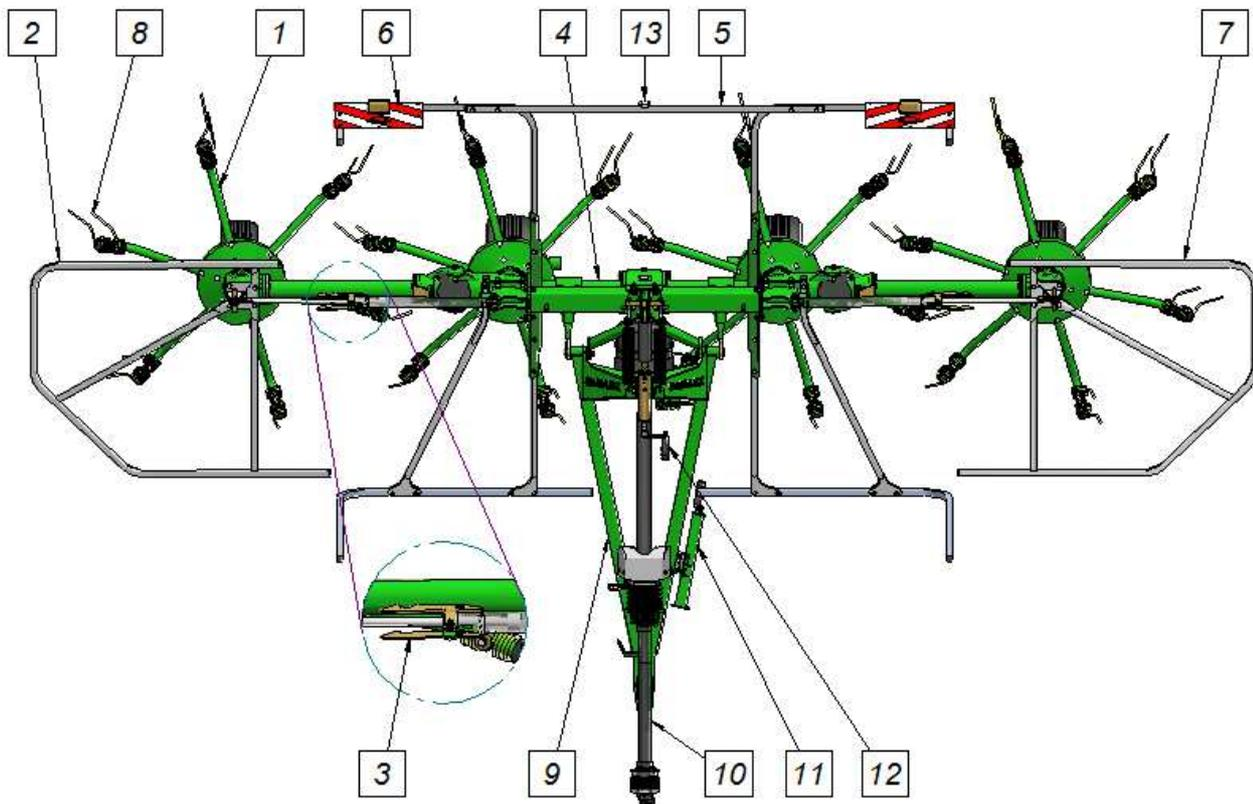

Fig. 3. Parts of SaMASZ rotary tedder (for: P4-471 C, P4 – 531 C)
Overview of 4-rotary tedder is provided in **Fig. 3**. Carrying frame (4) with drawbar (9) enables mounting of the tedder to the tractor's hitch bar. Drive from tractor's spline shaft is transmitted by PTO shaft (10) and intersectional gears onto rotors. Tedder comprises three drive units: left and right and main one, onto which rotors comprising arms (1) and tines (8) are set. Safety guards (2, 5, 7) are mounted on linkage and lateral drive units. For transport the two outer units with rotors are folded by hydraulics to vertical position and locked with a locking pawl (3).